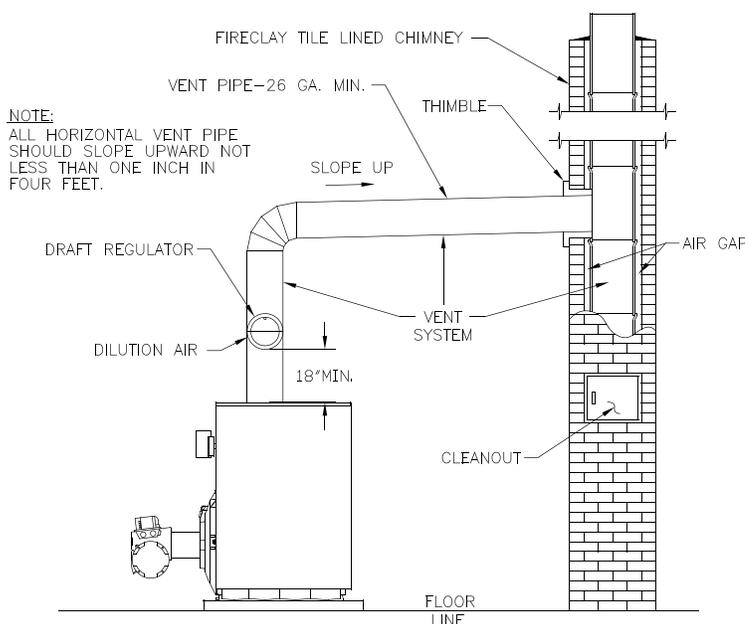

Figure 17: Recommended Smokepipe Arrangement and Chimney Requirements
L. INSTALL SMOKEPIPE — The CL Series boiler should be vented into a fireclay tile-lined masonry chimney or chimney constructed from type L vent or a factory built chimney that complies with the type HT requirements of UL103. The chimney and vent pipe shall have a sufficient draft at all times, to assure safe proper operation of the boiler. See Figure 17 for recommended installation.